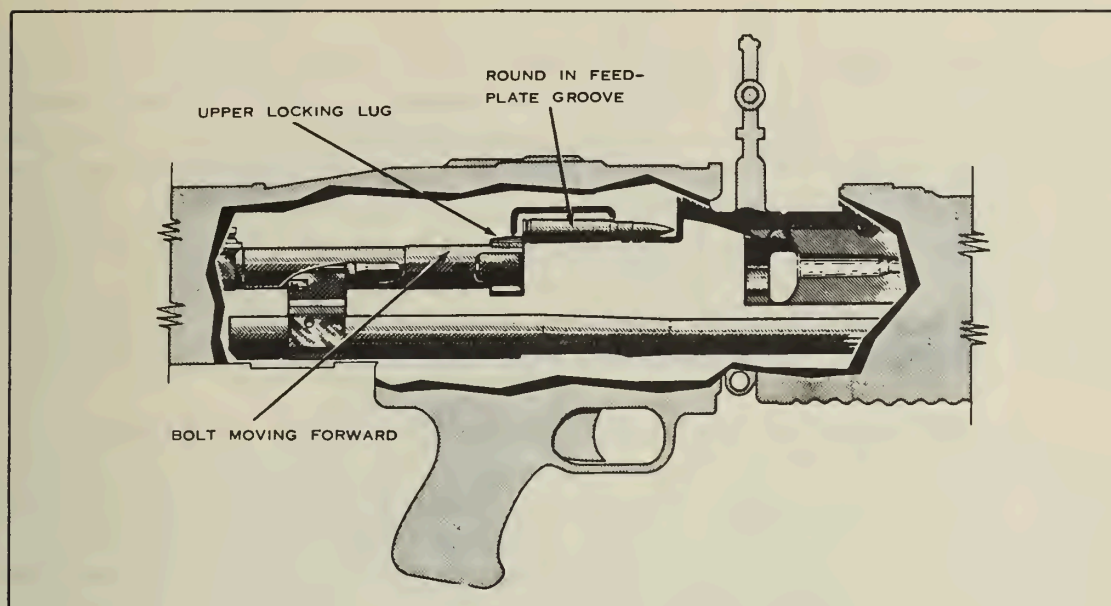

Figure 61. --Chambering - Bolt Contacting the Cartridge.
b. Chambering. --Chambering begins when the raised portion of the upper locking lug of the bolt comes in contact with the base of the cartridge. This occurs after a round is positioned in the feedplate groove and while the bolt is moving forward under the force of the expanding operating rod drive spring. The front and rear cartridge guides exert a downward pressure on the round so that the bolt will not ride under the cartridge. The front cartridge guide is built lower than the rear cartridge guide to prevent the link from moving forward with the round. The bolt continues forward, stripping the round from the link. The nose of the round strikes the chambering ramp in the receiver and is deflected down where it contacts the chambering ramp in the barrel socket. The round continues into the chamber and when it is fully seated, the extractor snaps into the extracting groove of the cartridge, the ejector spring is compressed, and chambering is completed. (See figs. 61 and 62.)